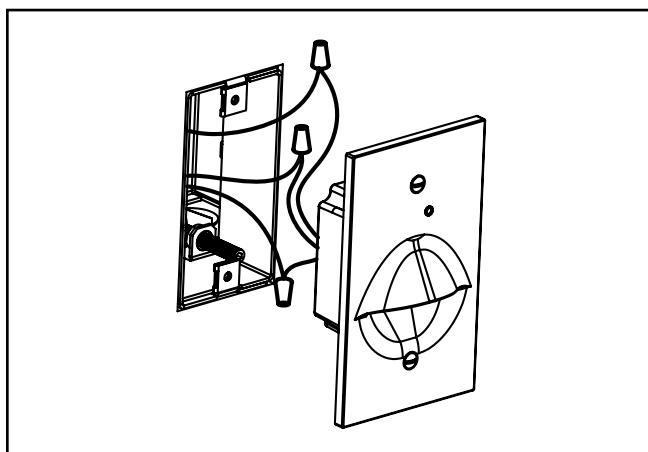

Figure 5.
5. Install Circadian LED Night Light per the installation instructions provided with the fixture (Figure 5).